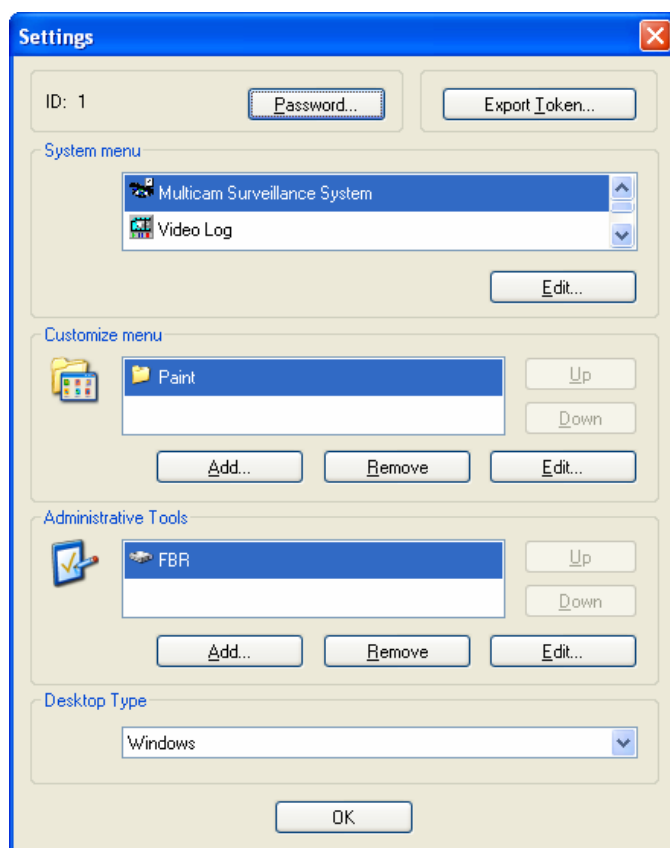

Figure 11-20
1. Click the **Export Token** button (Figure 11-20) to display the following dialog box.
7. When the Settings window (Figure 11-20) appears, select **Windows** in the Desktop Type field, and then exit from the window.